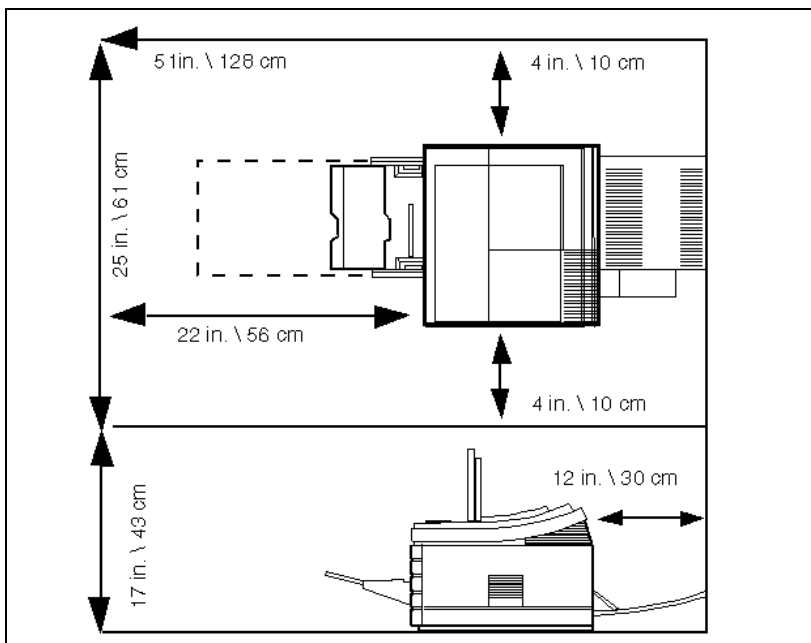

Figure 2-1 Space Requirements
- Install the printer away from walls. There must be enough space around the printer for proper access and operation (see Figure 2-1).